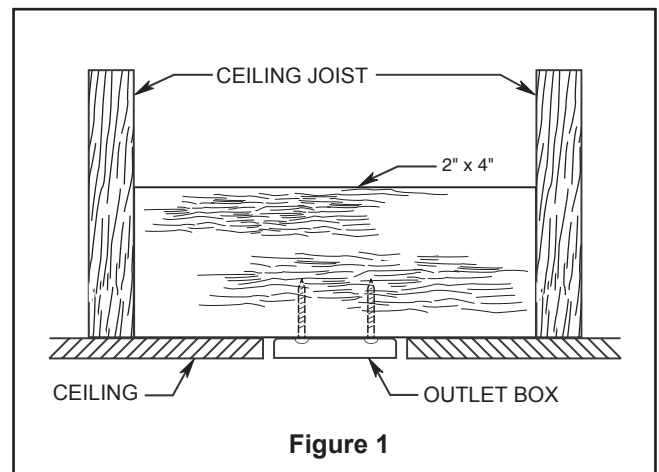
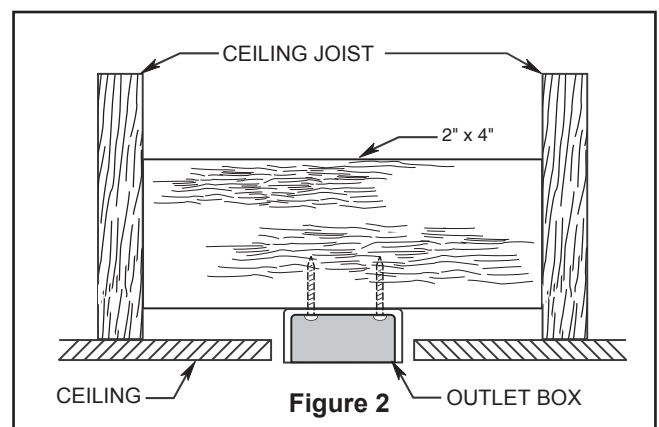
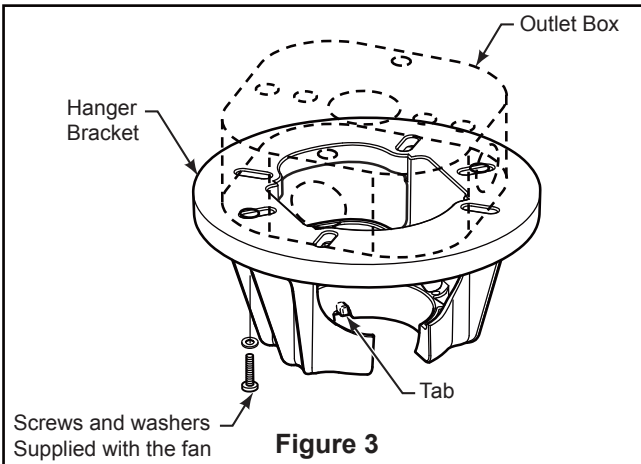
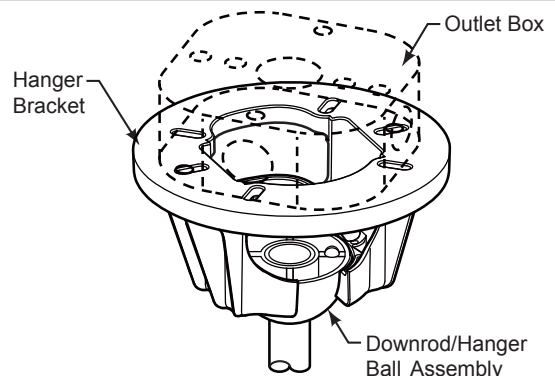

Figure 1
Figure 2
Figure 3
Figure 4
Your new ceiling fan will require a grounded electrical supply line of 120 volts AC, 60 HZ, 15 Amp Circuit. Electrical code requires use of a fan-rated outlet box to support the extra weight and motion associated with a ceiling fan. A fan-rated box will be labeled as such and typically supports up to a 70lb ceiling fan. Fan-Rated Outlet Boxes vary in ratings and design. Ensure the ratings of your ceiling fan outlet box meet the requirements for the ceiling fan being installed. Figure 1, Figure 2 and Figure 3 depicts different structural configurations that may be used for mounting the outlet box.
Low profile box (Figure 1)
Deep box (Figure 2)
Deep box with brace (Figure 3)
3. Remove the hairpin clip and clevis pin from the bottom of the downrod. Retain the pin and clip for reinstallation in Step 5. (Figure 3)
4. Loosen the two set screws and locking nuts in the downrod support of the motor assembly. Route the brown, blue, red, gray and yellow wires through the downrod. (Figure 4)
1. Securely attach the hanger bracket to the outlet box using the #8-32 outlet box screws and washers supplied with the fan. (Figure 3)
NOTE: Outlet box screws pass through slotted holes of the hanger bracket. (Figure 3)
3. Carefully lift the fan and seat the downrod/hanger ball assembly on the hanger bracket that was just attached to the outlet box. (Figure 4) Be sure the groove in the ball is lined up with tab on the hanger bracket. (Figure 3)
2. Slide the receiver into the hanger bracket before wiring as shown in figure 3.
3. Connect wires using connectors as shown in Figure 4.
3. Remove the battery cover from remote control by screwdriver and retain the screw for later. (Figure 3)
4. To make fan operational, install two 3V batteries (included) in hand-held remote transmitter, with fan power off. Then, follow the remote code setting process. If not used for long periods of time, remove battery to prevent damage to transmitter. Store the remote away from excessive heat or humidity. (Figure 4)